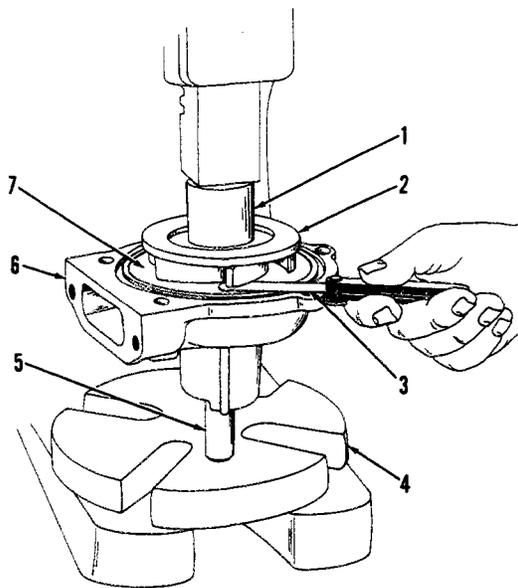

FIG. 10 CHECKING IMPELLER CLEARANCE
f. Position pump on press with pulley hub end of shaft firmly supported on the press base plate. Position impeller on upper end of shaft. Use a collar between the impeller and the press ram; press impeller on shaft to attain 0.015" (0.381 mm) maximum feeler gauge clearance between impeller and body plate as shown in Fig. 10.